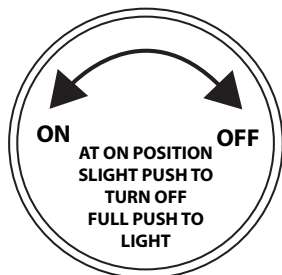

Fig. 18. Gas Valve Knob
1. Light a long match or Butane lighter and hold it near the burner (see fig. 18).
2. Rotate control knob on gas valve in the counter clockwise to ON position. (See Fig 18).
2. Depress control knob inward, push and light the burner at the same time. (See Figures 18 & 19).
7. Normal operation of the fire pit is with a battery pack that is supplied with your system (Fig 18). The battery box has 12-feet of black sleeved wire that is to be passed through the junction box provided. This wire should not be cut or spliced and the junction box can be placed in the facing of the vertical finish of the fire pit, if you place the wire under ground you should install those wires into an approved protective conduit/sleeve material.